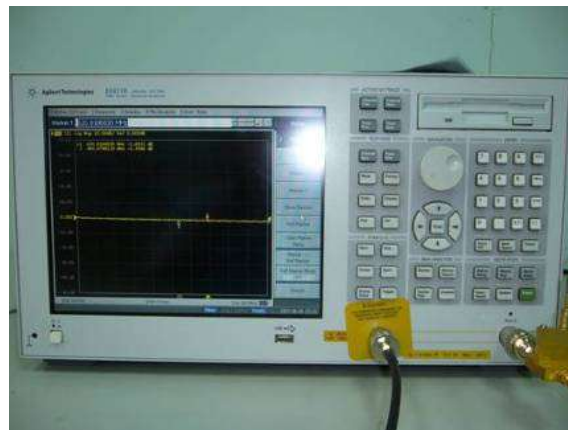

Figure 1. Network Analyzer
a. Equipment: Network Analyzer (Agilent E5071A)(Fig.1)